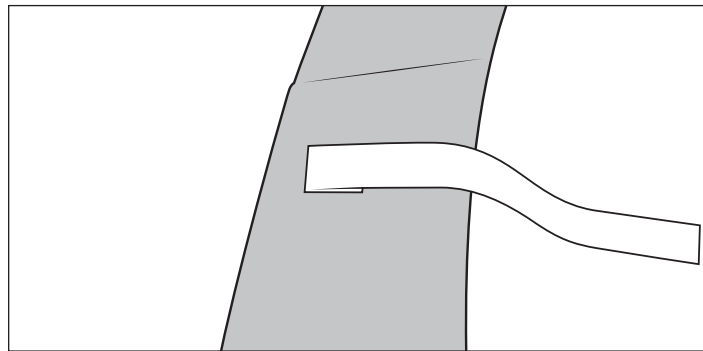

Figure 21
- B. Fold pull tab over so that when the flare is pressed up against the body it can still be removed (fig. 21).